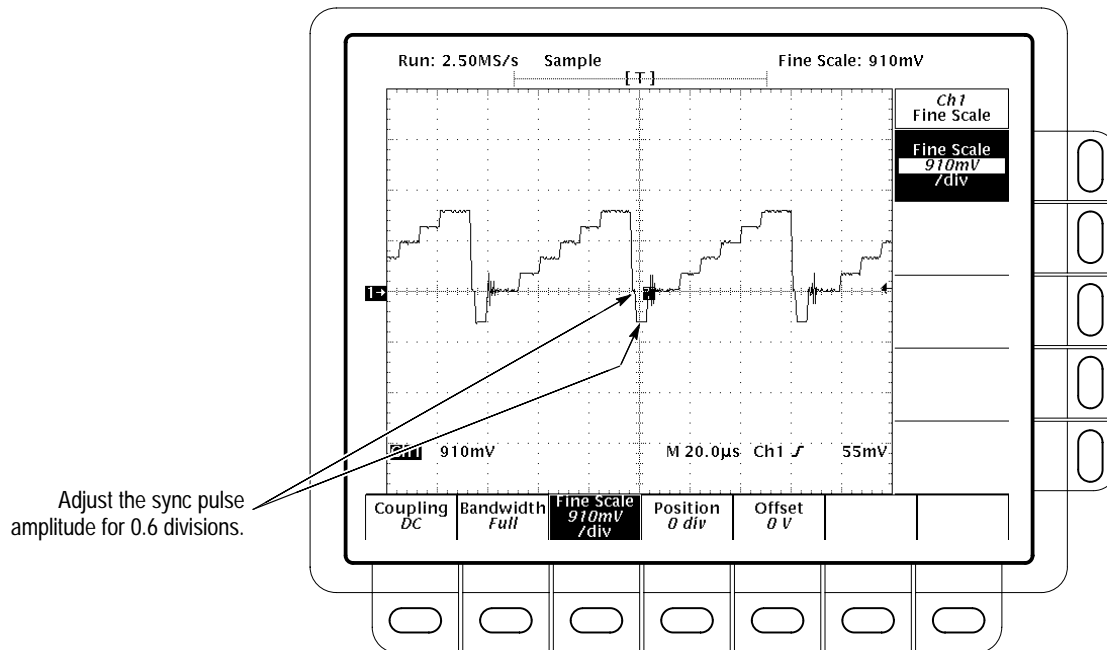

Figure 4–19: Adjusting Sync Pulse Amplitude
- Use the General Purpose knob, adjust the fine gain until the sync pulse amplitude is 0.6 divisions measured using the graticule (see Figure 4–19).